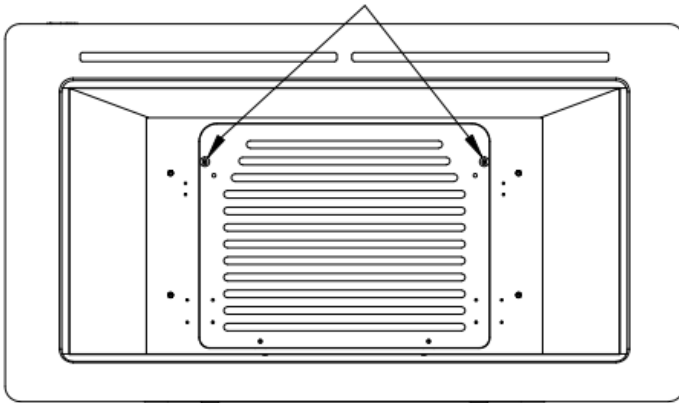

Fig. 1
Removing the Metal Grease Filter (Fig. 1)
- To remove the metal grease filter,unscrew the two thumbscrews(Point B of Fig 1) and remove the S/S panel.